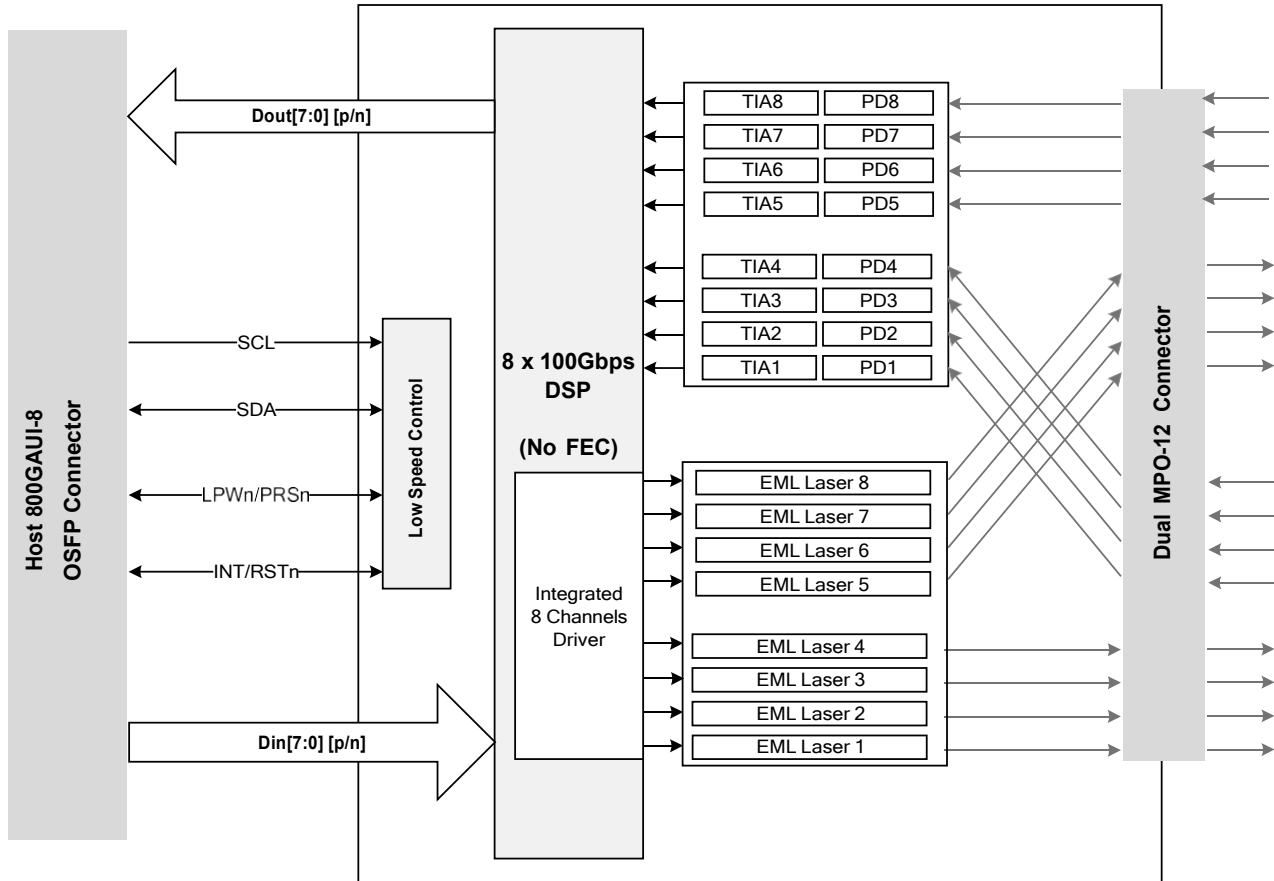

Figure 1: Transceiver Block Diagram
As show in Figure 1, the transmitter path of the transceiver contains an 8x100Gbps 800GAUI-8 electrical input with Equalization (EQ) block, integrated electrical multiplexer, EML laser driver, diagnostic monitors, control and bias for the eight single mode laser source. For module control and interrogation, the control interface (LVTTTL compatible) incorporates a Two Wire Serial (TWS) interface of clock and data signals.
As show in Figure 1, the receiver path of the transceiver contains eight PIN photodiodes, trans-impedance amplifiers (TIA), integrated de-multiplexer and 8x100G 800GAUI-8 compliant electrical output blocks. The Rx Output Buffer provides 800GAUI-8 compliant differential outputs for the high speed electrical interface.